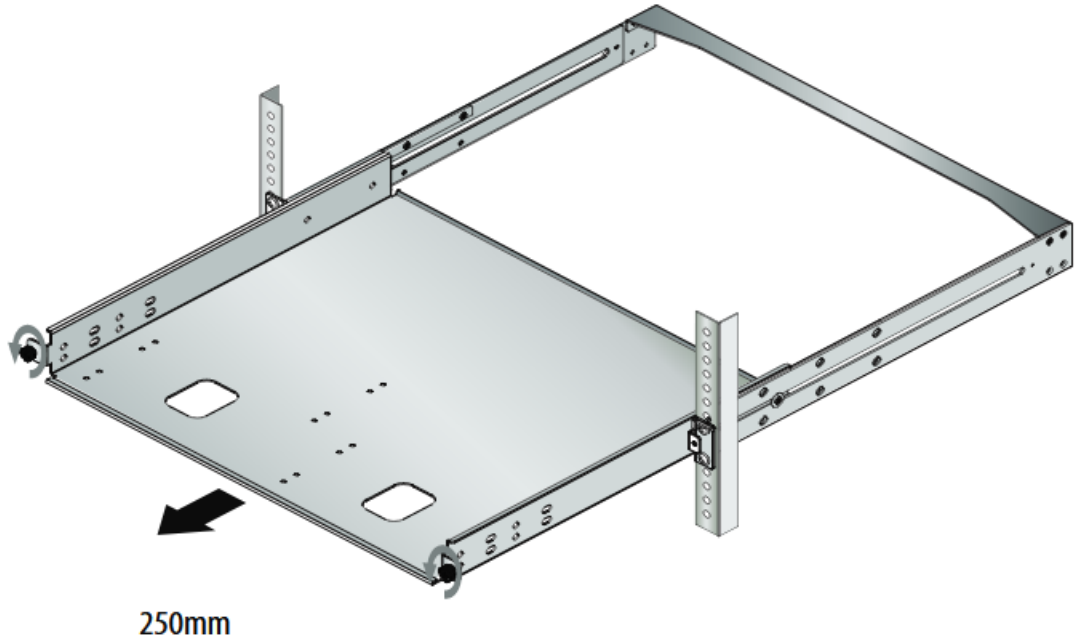

Figure 23. Pulling out the AT-RKMT-J15 Tray
4. Turn the tray fixing screws on counter clockwise and pull out the tray. See Figure 23.